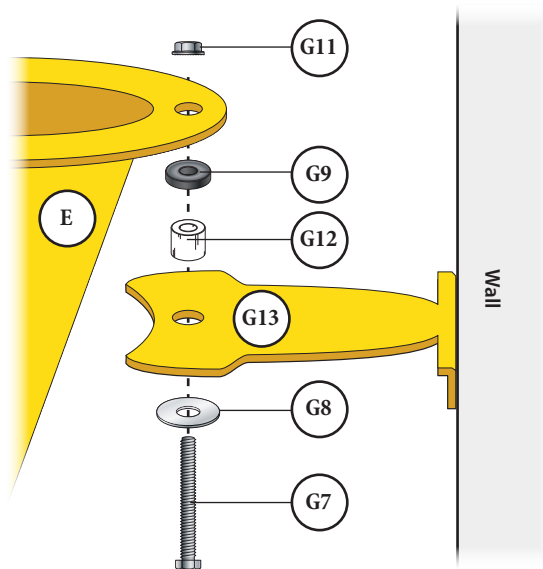

FIG. 12
Secure the Rear Support Brace (G13) to the Cyclone (E) using a 2-1/2" Hex Head Bolt (G7), Flat Washer (G8), Nylon Spacer (G12), Rubber Washer (G9), and Whiz-Lock Nut (G11) as shown in [FIG 12].